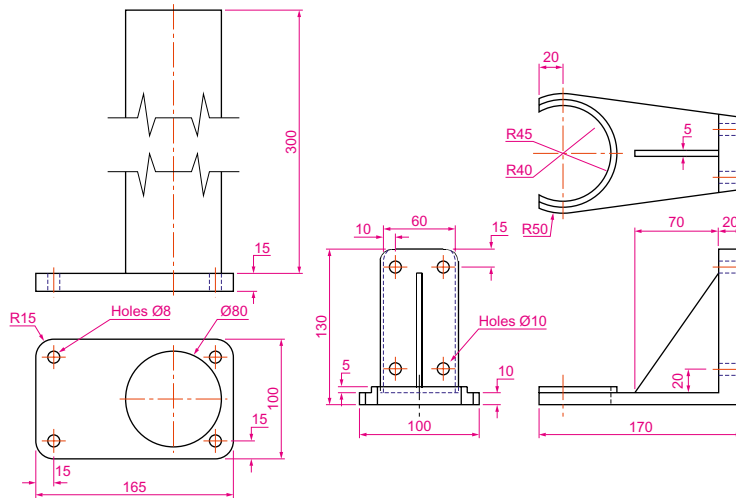
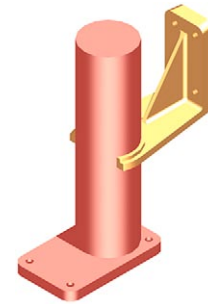

Fig. 15.28 Second example – Rendering – orthographic projection
Fig. 15.29 Second example – Rendering
### First example – Rendering (Fig. 15.28)
5. There are several methods by which **Distant** lights can be called. By selecting **Default Distant Light** from the **Generic Lights** palette (Fig. 15.29), with a *click* on the **Distant** icon in the **Render/Lights** panel, by *entering distantlight* at the command line.
4. Render the model (Fig. 15.28) using the **Render Region** tool from the **Render/Render** panel and if now satisfied save to a suitable file name (Fig. 15.29).
### Second example – Rendering a 3D model (Fig. 15.29)
1. Construct 3D models of the two parts of the stand and support given in the projections (Fig. 15.28) with the two parts assembled together.
Fig. 15.28 shows the resulting rendering.